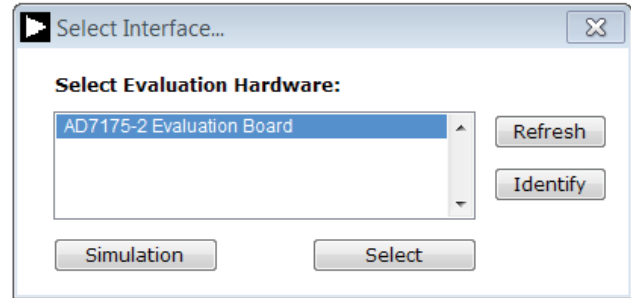
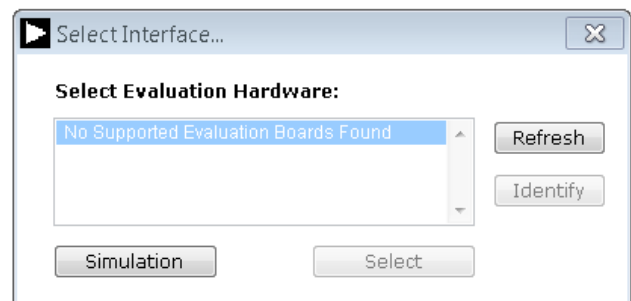

Figure 13. AD7175-2 Evaluation Board Selection
Figure 14. Evaluation Board Selection, No Board Connected
- The dialog box in Figure 13 appears, select **AD7175 Evaluation Board**. The main window of the software box displays as shown in Figure 16.
- If the **EVAL-AD7175-2SDZ** evaluation system is not connected to the USB port via the **SDP-B**, when the software is launched the **Select Interface** dialog box appears (see Figure 14). Connect the evaluation board to the USB port of the PC, wait a few seconds, click **Refresh** and the option shown in Figure 13 appears.
The Evaluation Mode indicator displays the current evaluation mode. To switch between modes, click the **Select Product** button and the dialog box shown in Figure 13 appears.